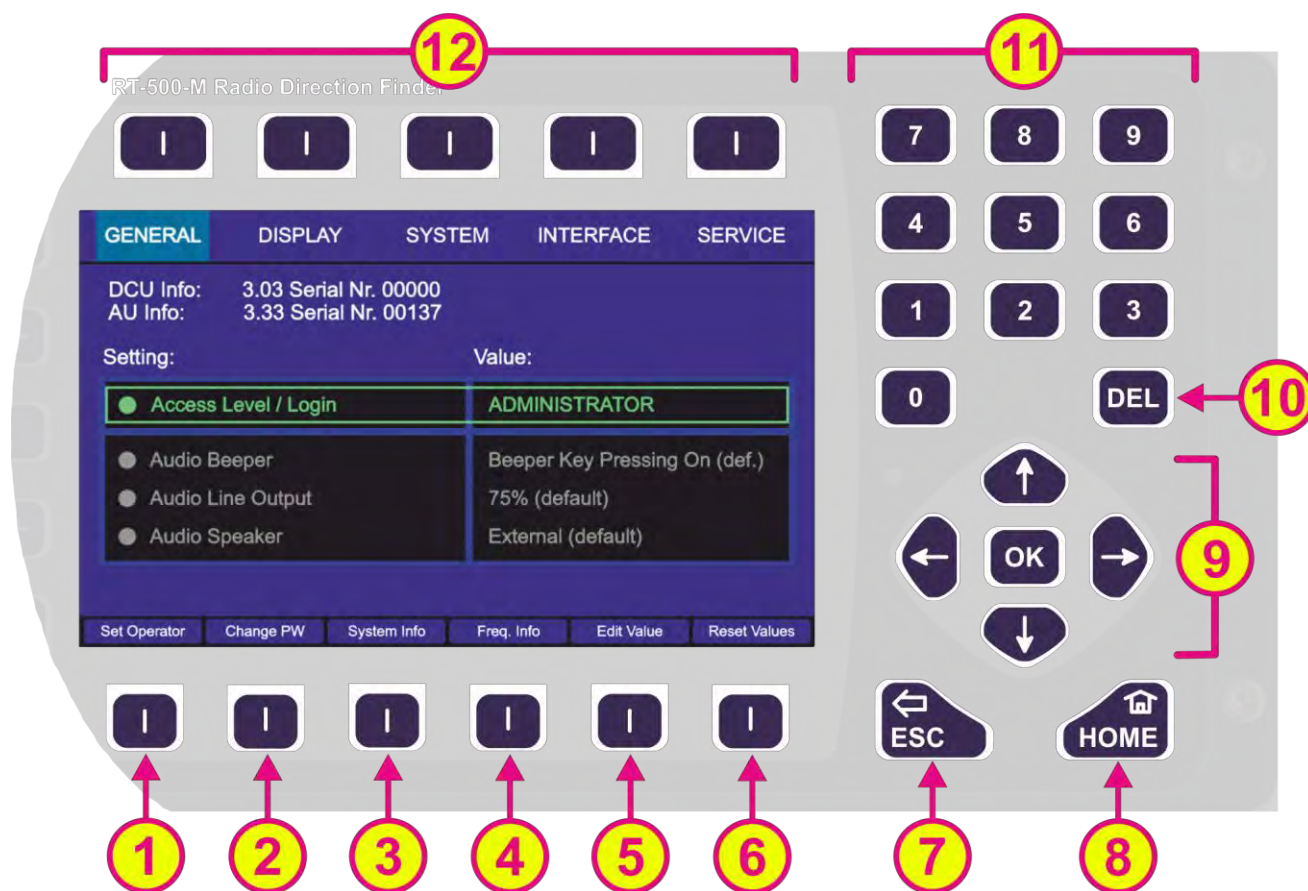

Fig. 65 Setup page. General settings (administrator view)
After selecting the "Setup" over the corresponding hotkey (Fig. 2, pos. 16) on the "Bearing" page, the following menu page opens (s. Fig. 65).
Depending on the currently marked line, pressing the hotkey “Edit Value” (s. Fig. 65, position 5) will lead to the corresponding dialog.
After pressing the hotkey “Freq. Info” (s. Fig. 65, position 4) the frequency information dialog opens.